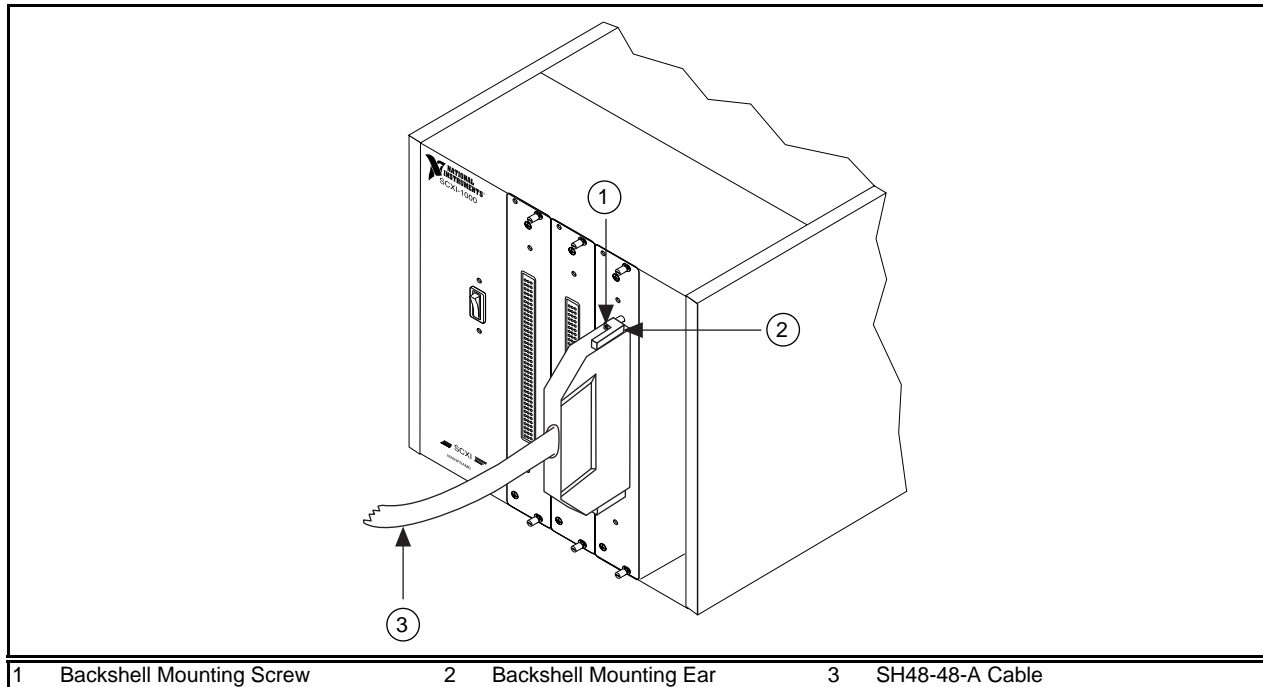

Figure 3. Connecting the SH48-48-A Cable to the SCXI Module
11. Verify that the backshell mounting ears are in the position shown in Figure 3. If not, remove the backshell mounting ears and install them in the position shown.